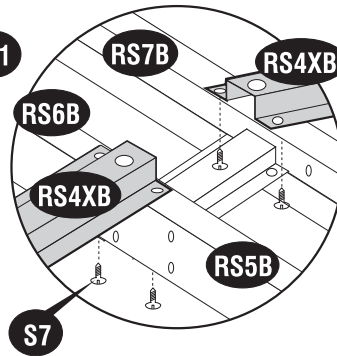
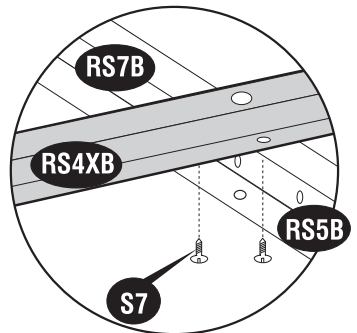

fig.3
fig.4
25. Attach the **roof structures (RS4B)** one end to **roof structure (RS3SB)** with **(S1)** screws. see fig. 1 & 2. Fix the other end to **roof structure (RS6B)** & **(RS7B)** with **(S1)** screws see fig. 3. Fix the middle portion to **(RS6B)** & **(RS7B)** roof structure with **(S1)** screws see fig. 4.